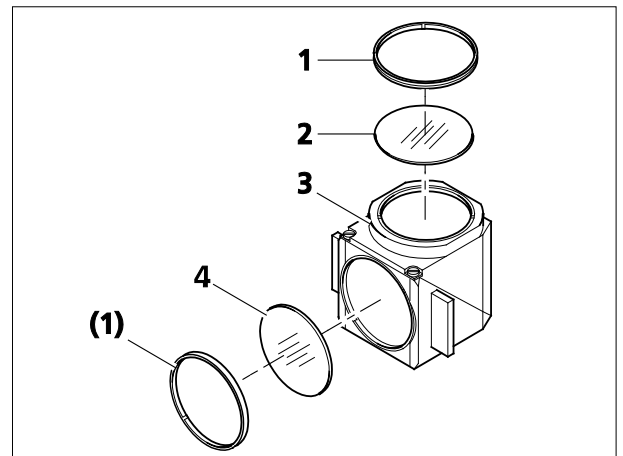

Figure 3-36 Replacing the filter set in the FL P&C reflector module
- Remove the FL P&C reflector module (Figure 3-36/3) from the reflector turret (see section 3.1.5).
- Use the assembly sheet metal part from the toolset to unscrew the retainer ring (Figure 3-36/1).
- Turn the reflector module upside down to drop the filter (Figure 3-36/2 or 4) on a soft surface.
- Put the barrier filter in position (Figure 3-36/2), put the excitation filter in position (Figure 3-36/4), and secure them by the retainer ring (Figure 3-36/1).